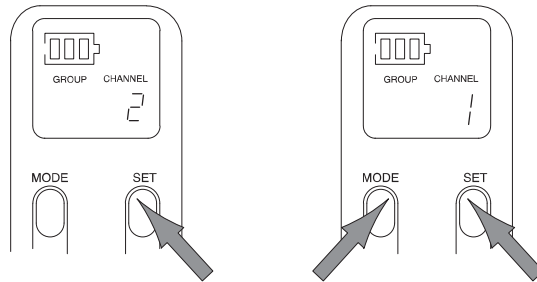

FIGURE 28
5. To reverse the direction of the Group or Channel search, hold down the SET button and press the MODE button. See Figure 28.